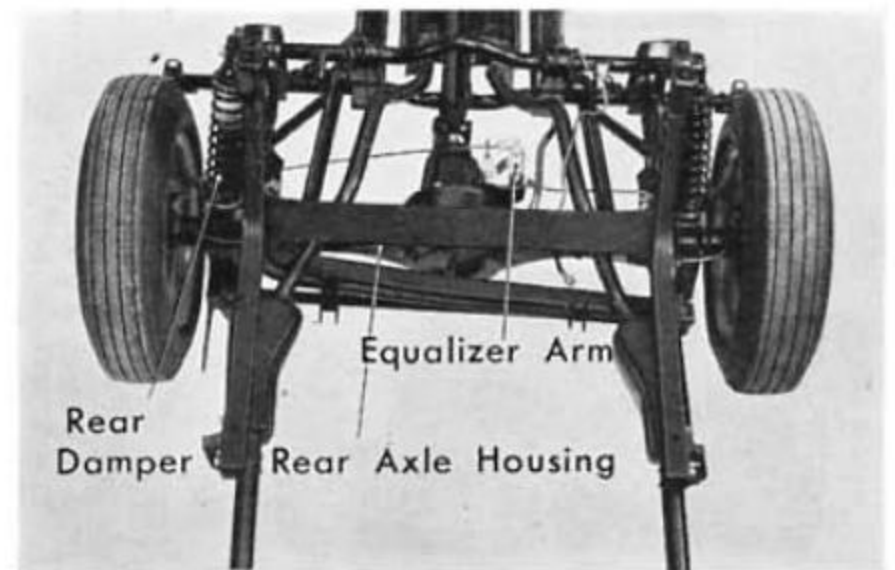

Fig. 18A-3
9. Remove the clamps and remove the fuel pipe (Fig. 18A-4).